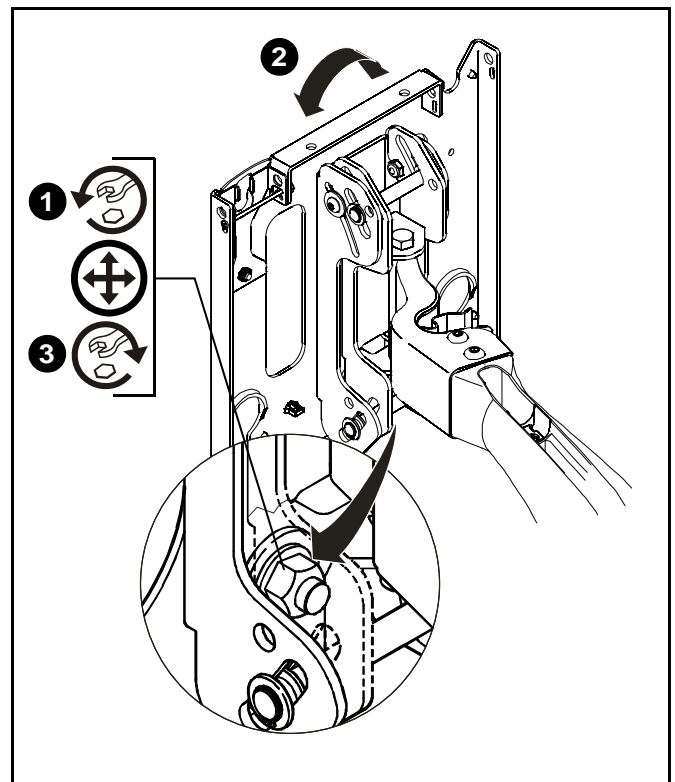

Figure 11
1. Loosen the roll tension adjustment nut located on the back side of the faceplate assembly. (See Figure 11)
3. Tighten roll tension adjustment nut. (See Figure 11)